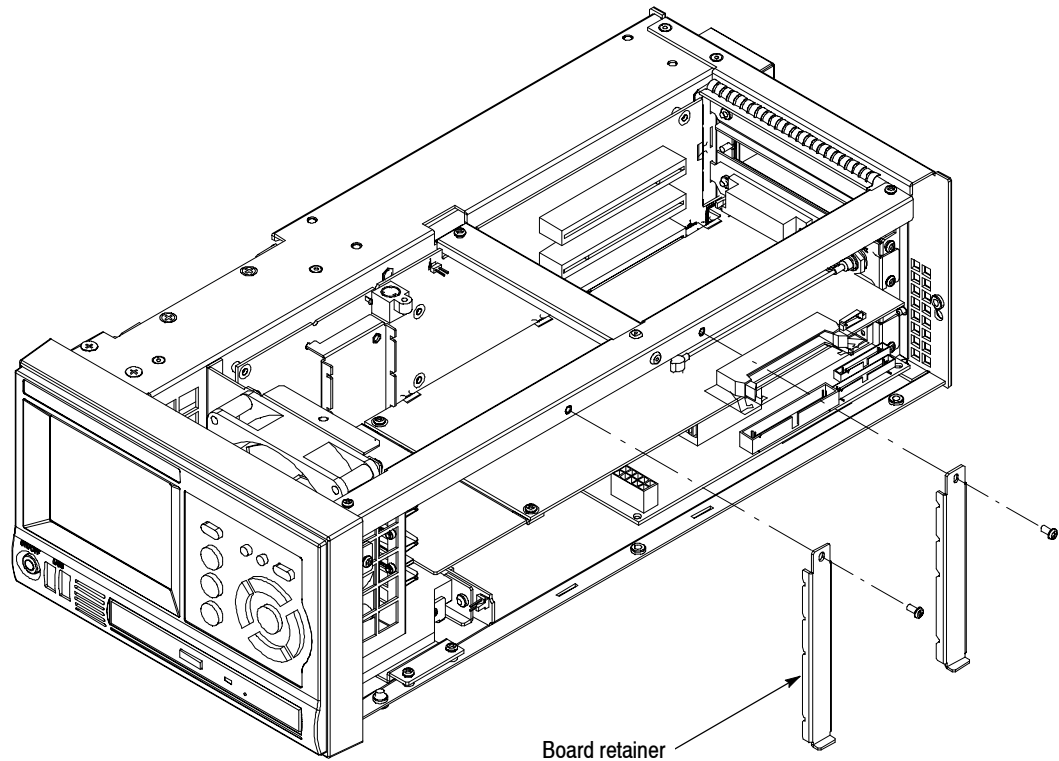

Figure 3: Removing the board retainers
2. Use a screwdriver with a T-10 Torx tip to remove the two screws securing the board retainers to the chassis. See Figure 3.
3. Lift the retainers away from the chassis. See Figure 3.